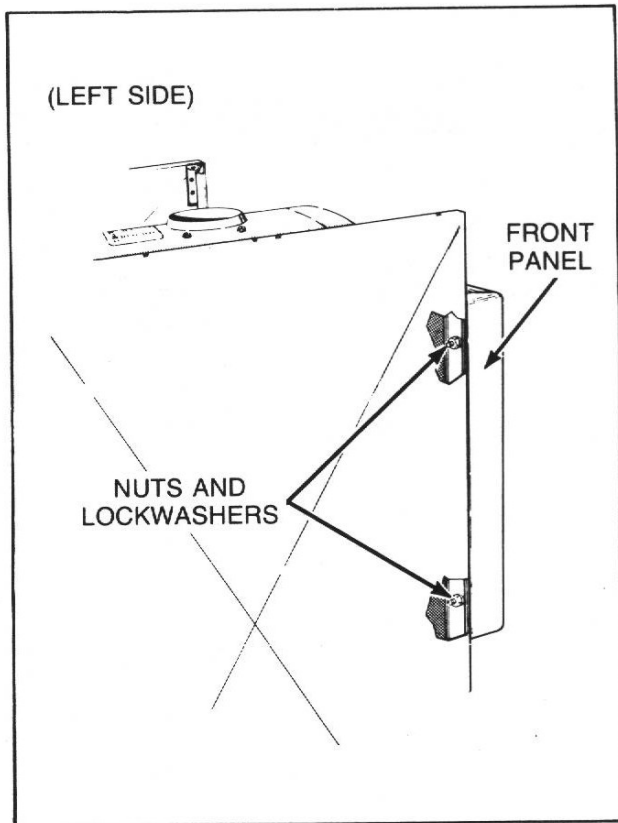

Figure 11
- h. Remove two nuts and lockwashers, *Figure 11*, holding front panel assembly to left leg (leave bolts in place).
- j. Remove two nuts and lockwashers, *Figure 11*, holding front panel assembly to left leg (leave bolts in place).
- Remove two nuts and lockwashers, *Figure 11*, holding front panel assembly to left leg (leave bolts in place).